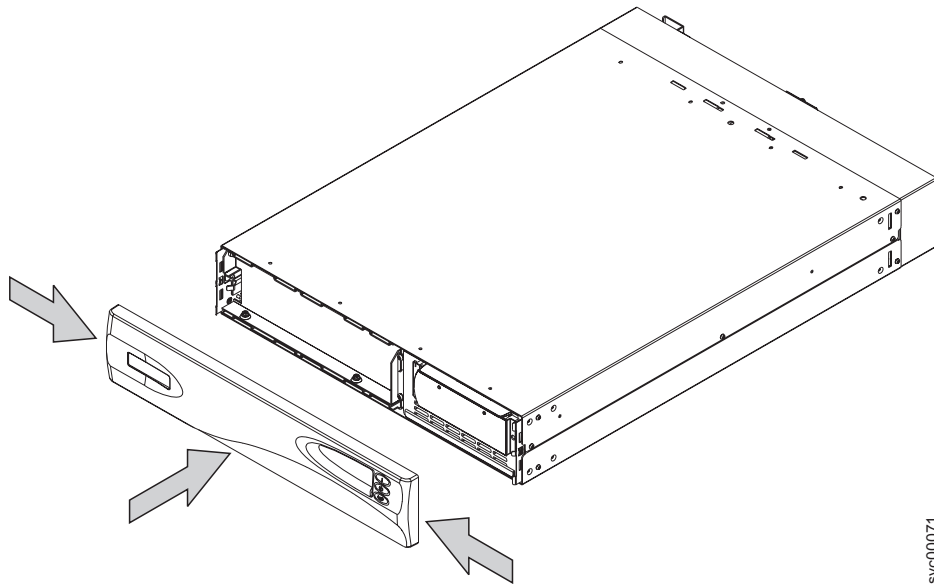

Figure 250. Replacing the 2145 UPS front panel
4. Replace the front panel by pressing the sides inward, and pushing on both ends towards the 2145 UPS, as shown in Figure 250 on page 522).